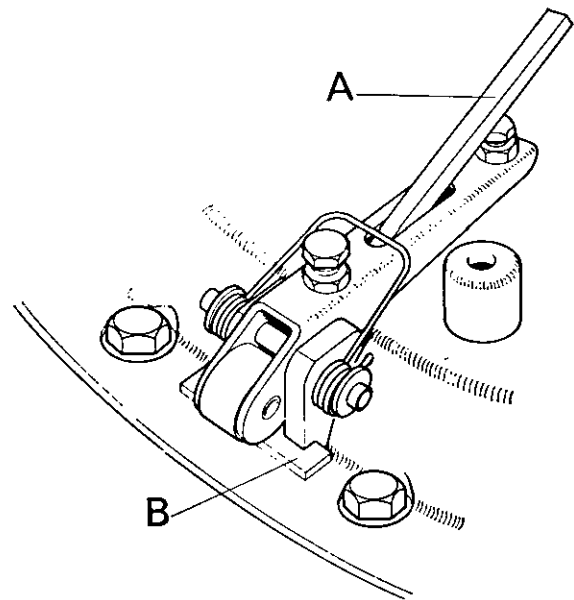

Figure 32.
11. Before removing clutch from baseplate, replace transit blocks — $\frac{3}{32}$ in. \times $\frac{1}{2}$ in. \times 2 in. (2.38 \times 12.7 \times 50.8 mm) — between cover and pressure plate at the heel of release levers to prevent thrust springs expanding too far as shown in Figure 32.